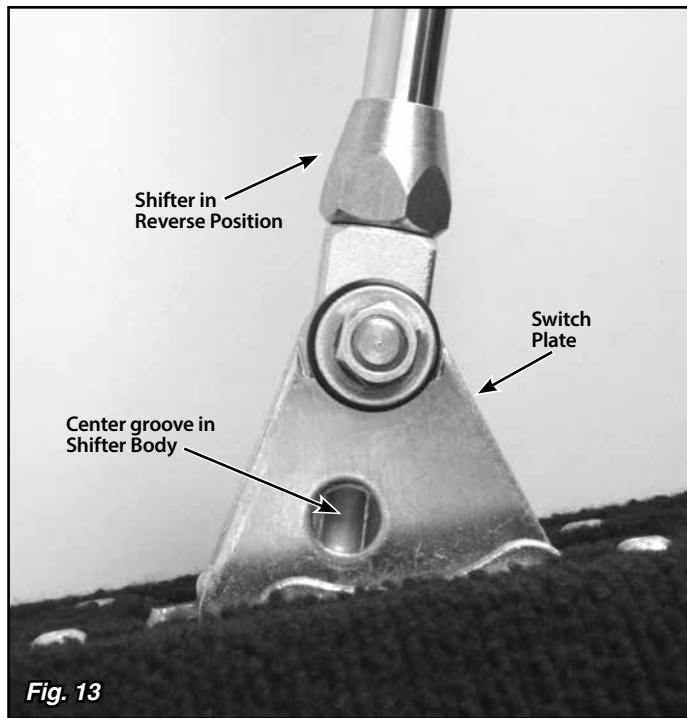
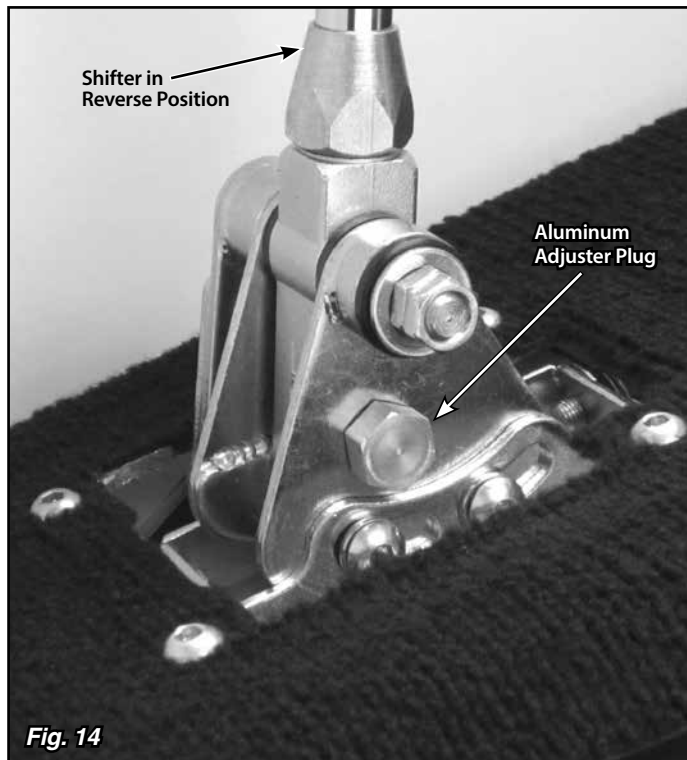

Fig. 13
Fig. 14
**Step 17:** Put the shifter into the Reverse position. Reposition the switch plate so that the hole in the switch plate lines up with the center groove in the shifter body. **Fig. 13** Screw the provided aluminum adjuster plug into the neutral safety switch opening. Wiggling the switch plate slightly forward and back while you are screwing the aluminum adjuster plug in will help get the shifter body centered on the adjuster plug. **Fig. 14**